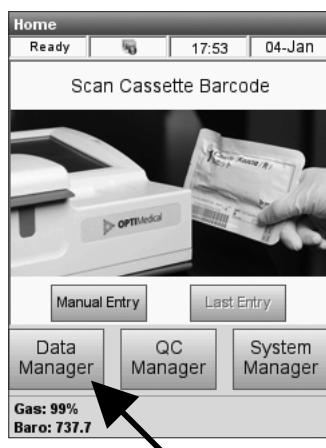

Fig. 6-1 Data Manager
1. To print a patient report, select **<Data Manager>** in the main menu (Fig. 6-1).